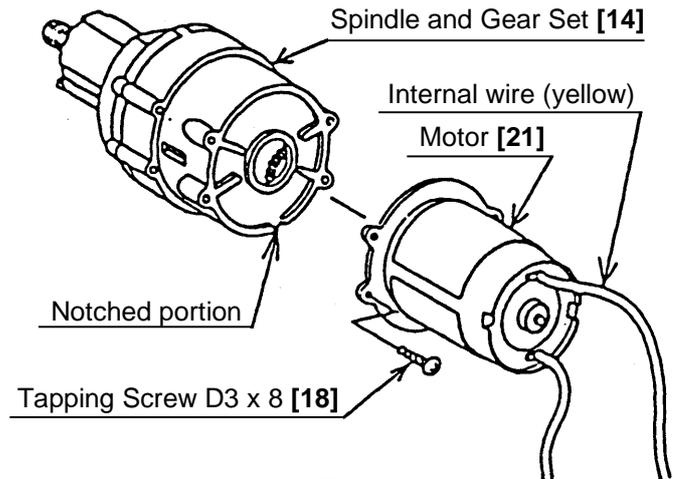

Fig. 9
(2) Connecting the Spindle and Gear Set [14] and the electric components assembled as described in Para. (1)
When connecting the Spindle and Gear Set [14] and the electric components assembled as described in Para. (1) above, ensure that the colored lead wires soldered to the Motor [21] are correctly positioned with relation to the notched portion of the Spindle and Gear Set [14] before fastening the two sections with the four D3 x 8 Tapping Screws [18]. (See Fig. 9)